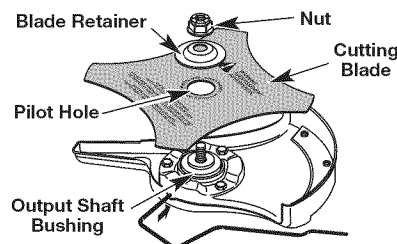

Fig. 7
- Place the cutting blade on the output shaft bushing (Fig. 7).